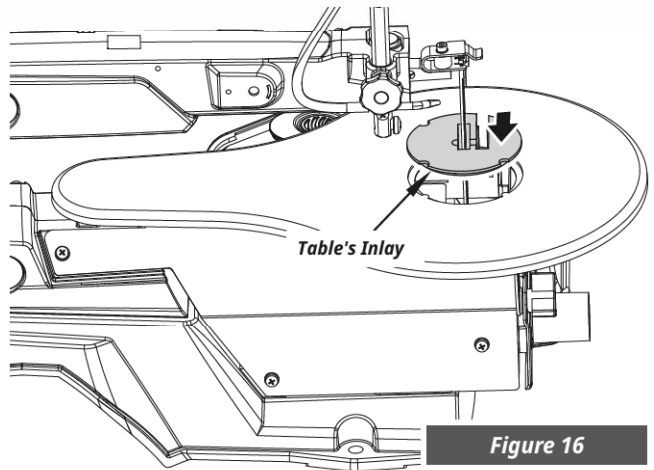

Figure 16
5. Install the table inlay back. (See Figure 16)